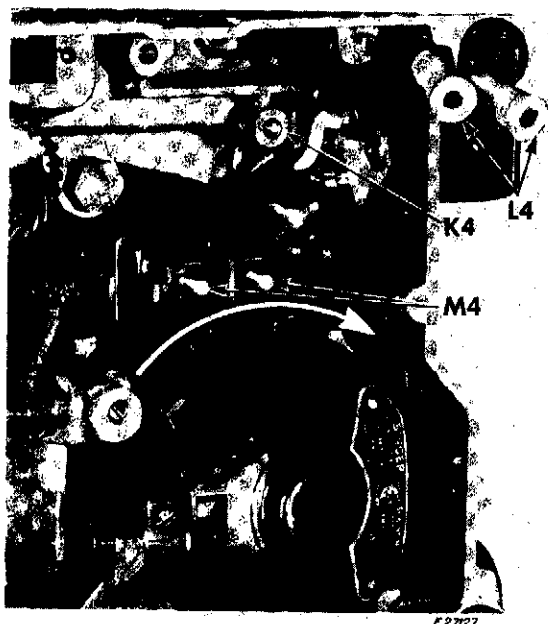

Fig. 300. Removing Motor
3. Remove motor hold-down plate, by removing screw from hole **K4**, **Fig. 300**.
4. Remove two electrical sleeve connections **L4** from motor terminals **M4**, **Fig. 300**.
2. Slide motor into position, turning hand wheel slightly to facilitate correct gear mesh. Push motor clockwise firmly until motor butts against casting, as shown by curved arrow in **Fig. 300**.
3. Fit electrical sleeve connections **L4**, **Fig. 300** to terminals **M4**.